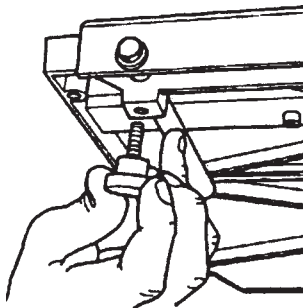

Fig. 3
- Thread both knobs (5) into the table and tighten them. See Fig. 3.